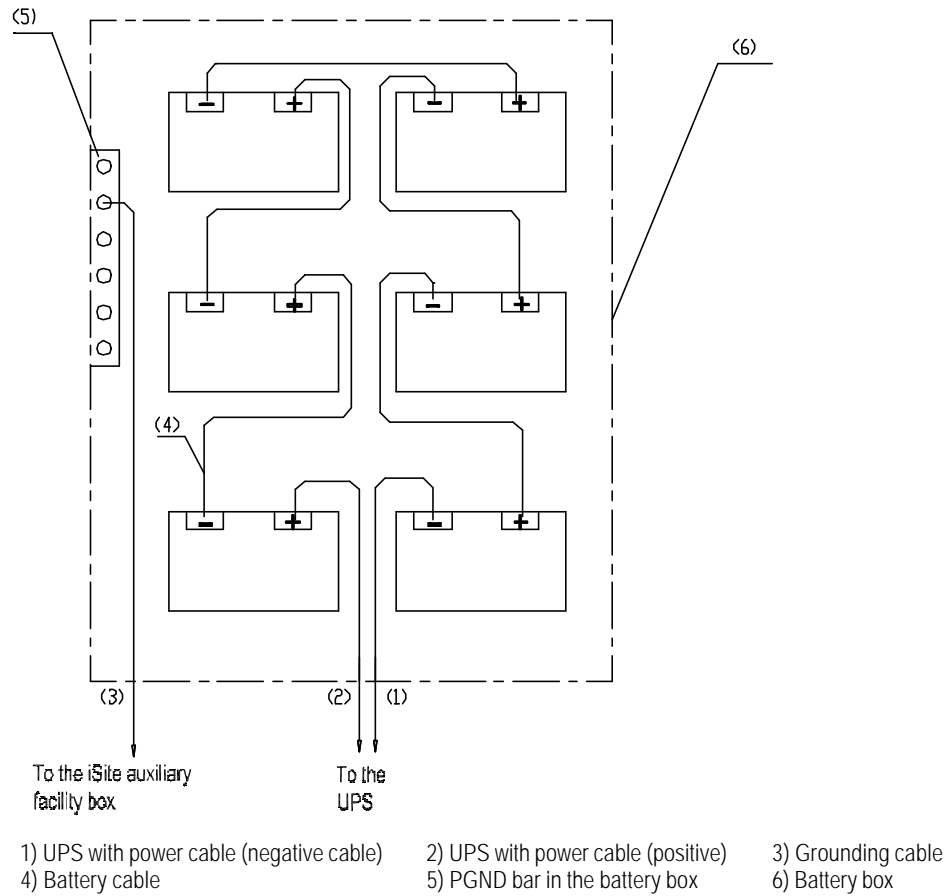

Figure 2-44 Connecting UPS to the IABB
- Connect 6 batteries in series via the cables delivered with the box, as shown in Figure 2-44.